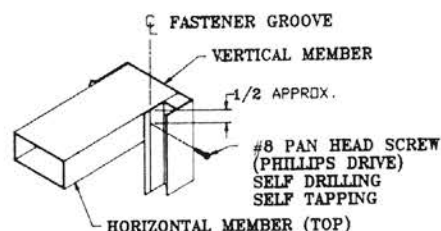

Figure 3
With the top, intermediate and bottom horizontals properly fitted and spaced in the verticals, secure the grid at each of the four corners using one (1) #8 self-drilling, self-tapping fastener. The fastener should be located in the extruded pilot groove as shown in Figure 3.